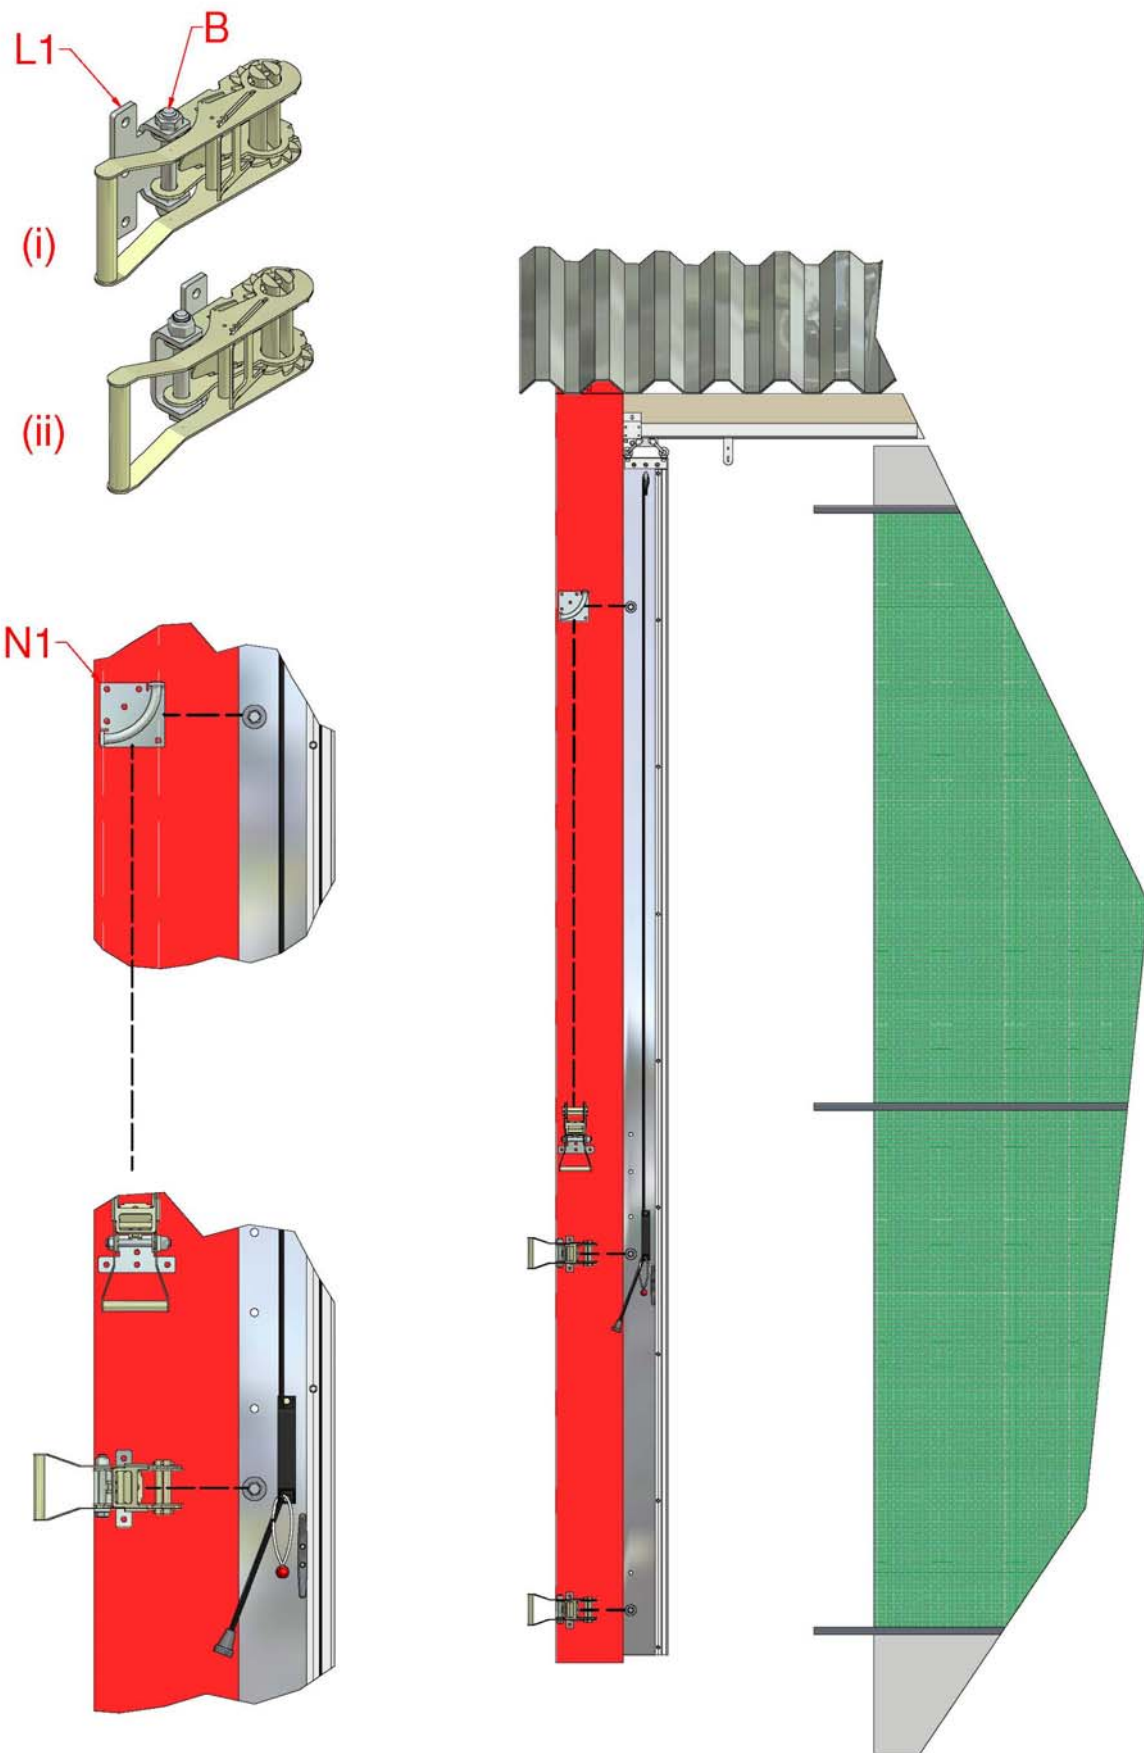

Figure 7, Securing the Sliding Post
8. Assemble the 50mm ratchets (K1) and ratchet brackets (L1) using the M12x90 bolt as shown in Figure 7 (i) or (ii) to suit mounting space available.
9. Fix two ratchet assemblies to the opening end of the building so that they align with the two locating studs of the sliding post, Figure 7.
- 10.1 Fix the webbing corner plate (N1) so that the identification notch aligns with the topmost locating stud. Fix a 50mm ratchet assembly directly below the bottom identification notch at a convenient operating height, Figure 7.